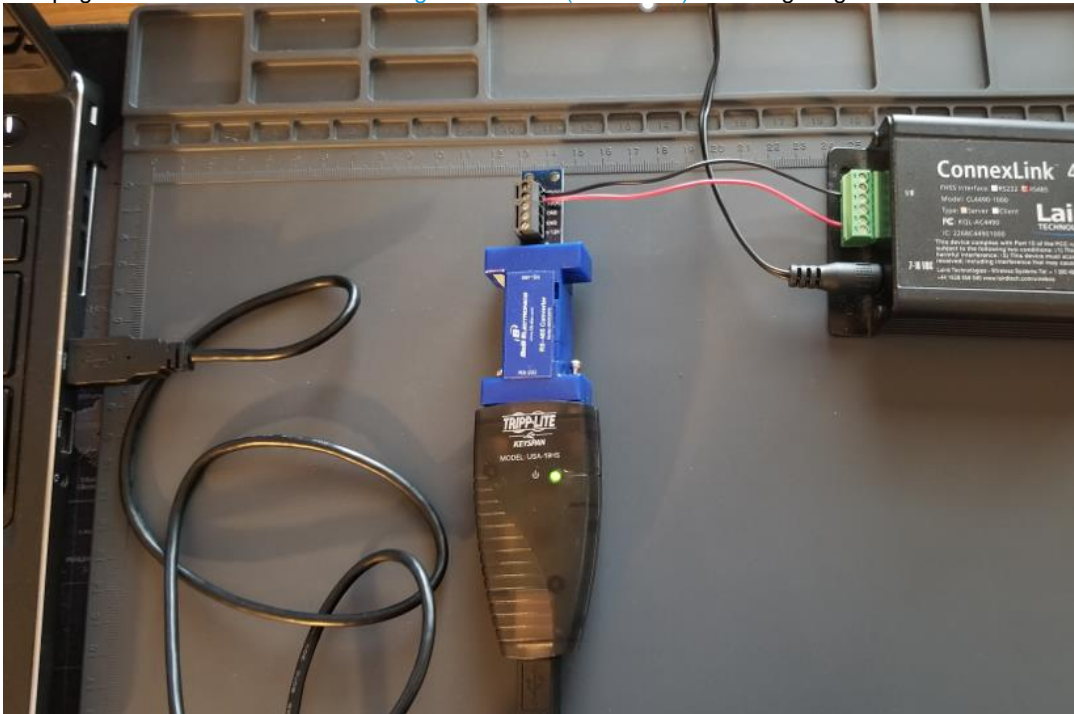

Figure 9: RS485-to-RS232 + RS232-to-USB (485SD9TB + USA-19HS)
- CL4790-1000-485 can be connected using combination RS485-to-RS232 & RS232-to-USB adapter (Figure 9)